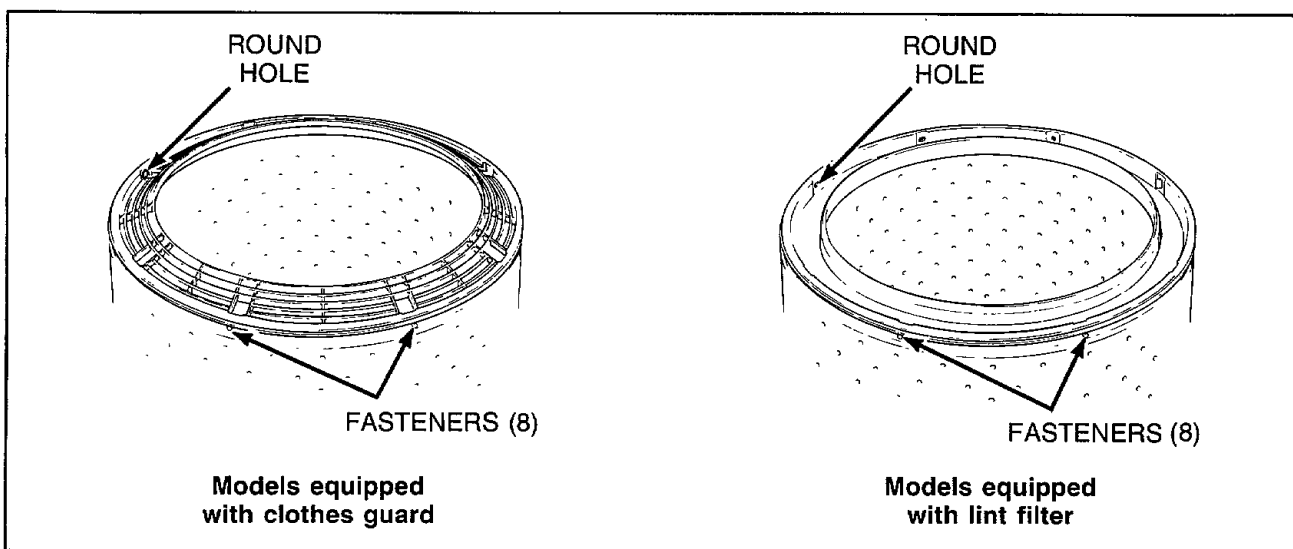

Figure 28
- Remove the eight fasteners holding clothes guard or lint filter to washtub, *Figure 28*.
**NOTE:** When installing clothes guard or lint filter, it is necessary to start the first fastener in the round hole, *Figure 28*. Place the remaining fasteners in their respective holes.